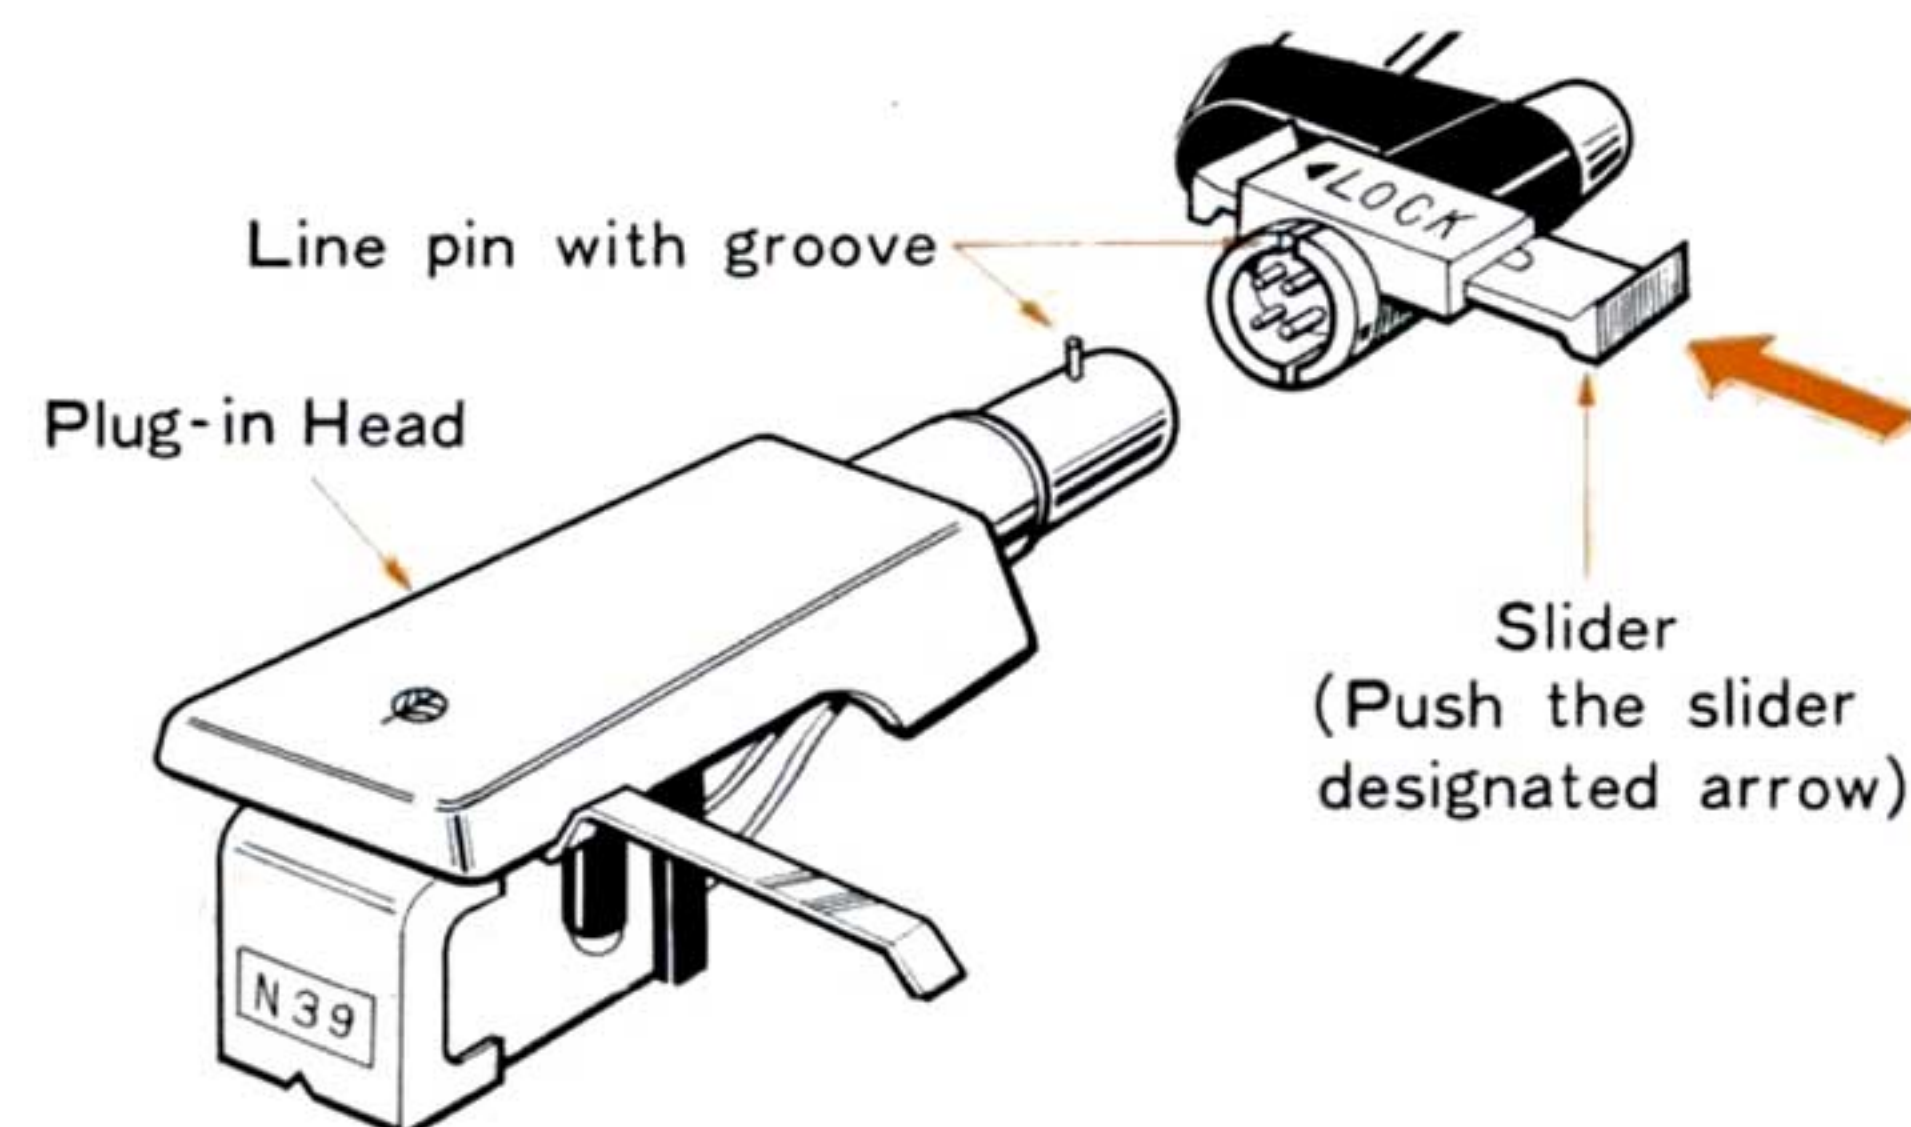

Figure 5. Attaching The Plug-in Head
3. Next attach the plug-in head to the tone arm as follows. Push the LOCK slider button to the right as far as it will go, and insert the plug-in head into the tone arm after lining up their grooves. Then push the slider to the left toward LOCK. This will lock the plug-in head securely in place. (See Figure 5). Make sure that all contact points are thoroughly cleaned beforehand to ensure solid connections.
To replace the stylus, first remove the plug-in head. Refer to Figure 5.